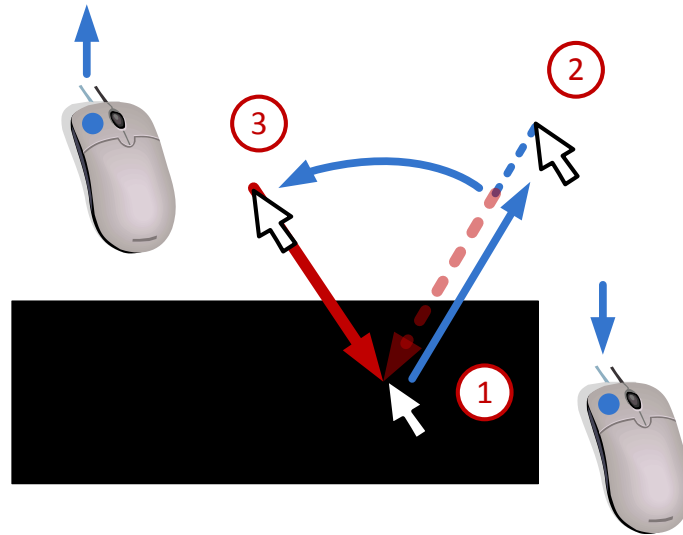

Figure 22 - Creating forces
A force is created by clicking on the position in the structure where it is acting ①. While holding the mouse button down the direction of the force can be changed by moving the mouse around the force application position ②-③. Figure 22 illustrates the process of creating a force.